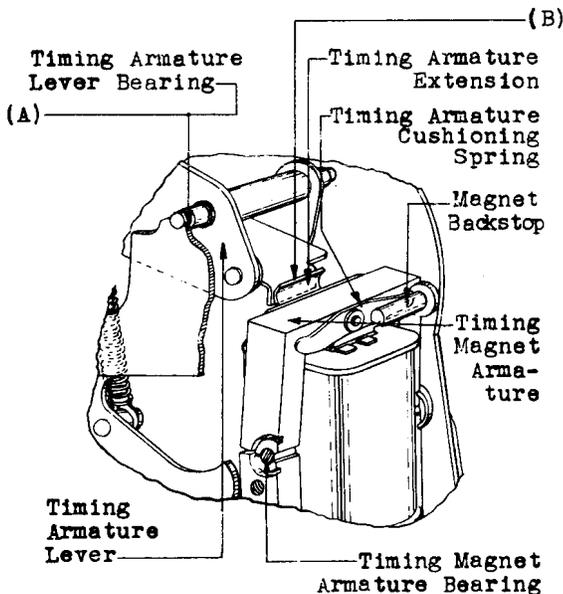

Fig. 2
- Timing Armature Lever Bearings - Fig. 2 (A)
- Bearing Surface of Timing Armature Extension - Fig. 2 (B)